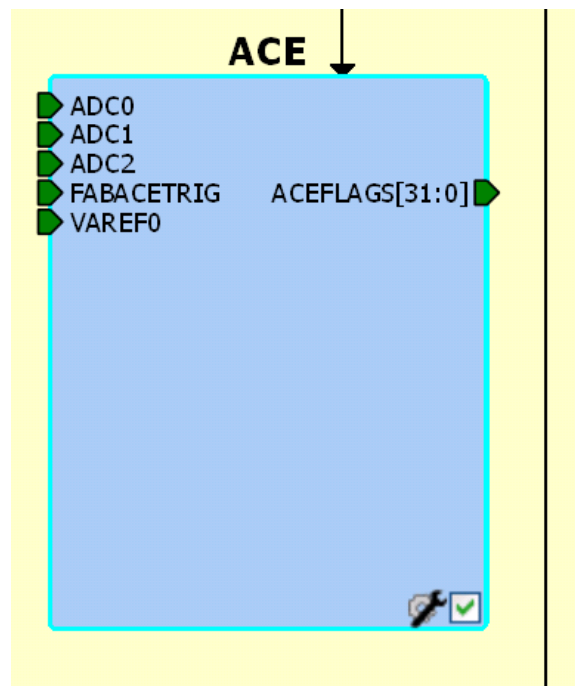

Figure 13 • ACE Instance in the MSS Configurator
- Click **OK**, the ACE instance in the MSS configurator window is displayed, as shown in Figure 13.